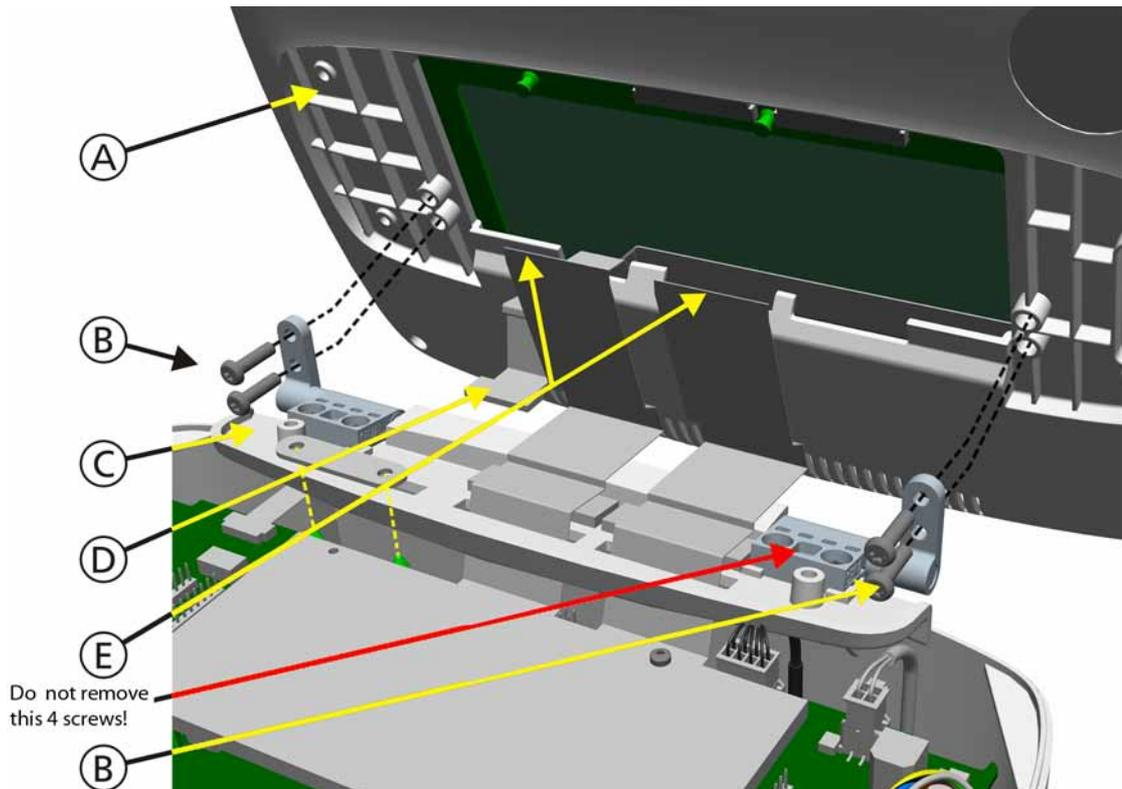

Figure 11-3. Interaction Panel Removal
- Figure 11-3, *Interaction Panel Removal*, on page 11-8